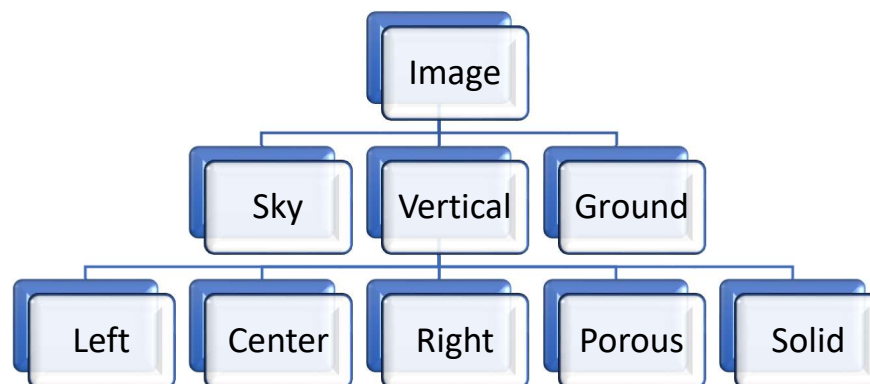

Figure 2 Class Labels generated by HEH
- Another paper HEH^{iv} classifies images into a set of geometric classes related to 3D structure as shown in Figure 2.